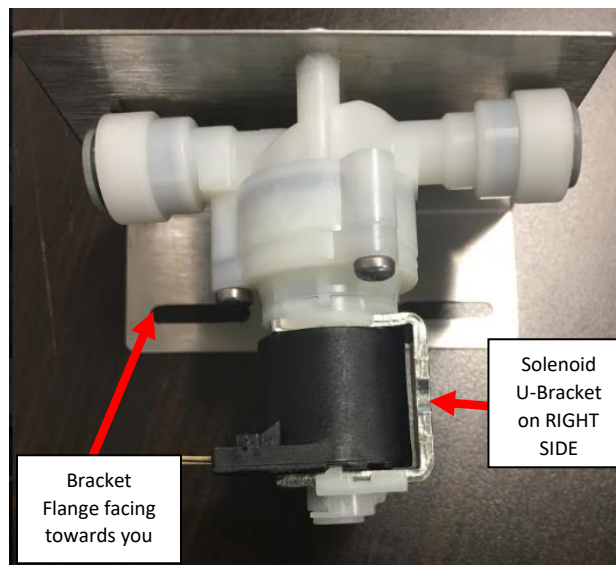

Figure G5: *Orientation Shown.*
6. Replace the Solenoid with a new unit. Remember to reinstall the split washer removed when reinstalling the new Solenoid to prevent it from getting damaged. The Solenoid should be installed so that the U-Bracket on the Solenoid is on the Right with the bracket flange facing towards you. **See Figure G5.**